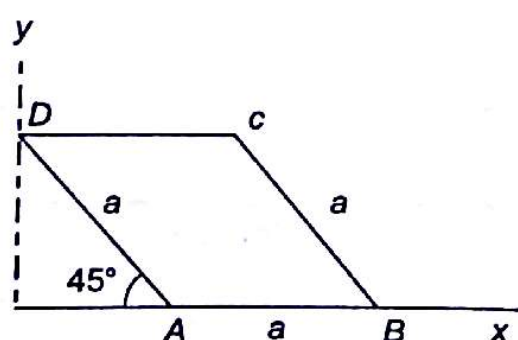

Fig. 16.4
- 16.3 A rhombus plate of side a mass m is made of a thin plate. What is mass moment of inertia of plate about x -axis (Fig. 16.4)?